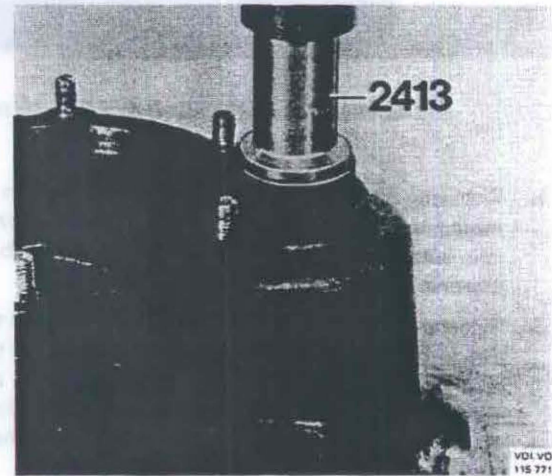

Fig. 46-126. Pressing in the needle bearing
3. Oil the needle bearing. Press the bearing into the housing and rotate the gear wheel at the same time to make sure that the bearing is fitted properly. Use 2413, see Fig. 46-126. Press down the bearing so that it comes flush with the edge.